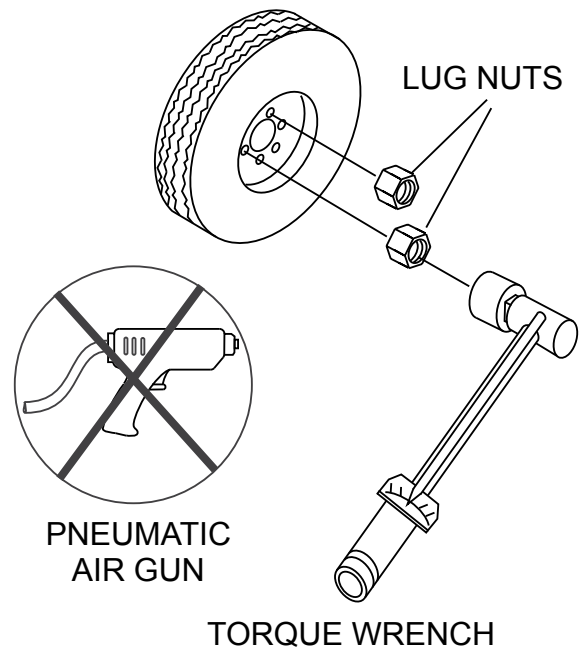

Figure 31. Wheel Lug Nuts Tightening Sequence
2. Torque all lug nuts in sequence. See Figure 31. **DO NOT** torque the wheel lug nuts all the way down. Tighten each lug nut in 3 separate passes as defined by Figure 31.